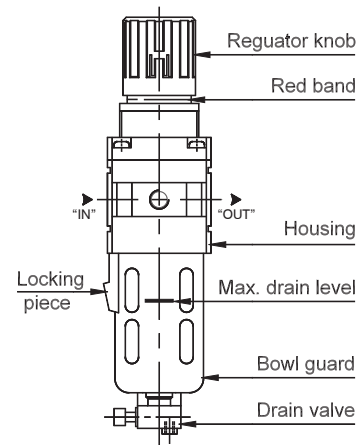

fig. 1
1. To set the Regulator, pull the regulating knob till " Red band " (Indicator ring) is visible (refer to figure 1).